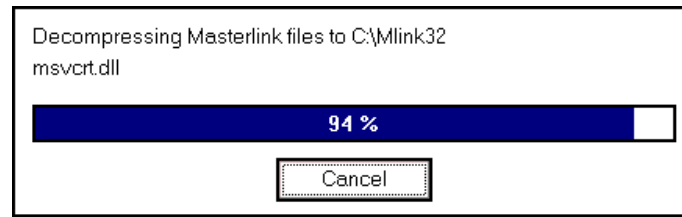

Figure 1.8, Decompressing of Files Progress
14. The following dialogue box, **Figure 1.8**, will appear displaying the progress of the files being decompressed to the selected directory.